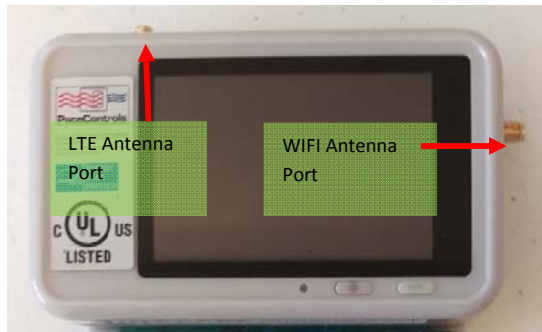

Figure 2. Antenna mounted on an HVAC unit
4. Installing Other Components: Typical PACE4 installations require the installation of supply and return air temperature sensors, a current transformer & a thermal switch (referred to as extend sensor). For communication, an antenna must be attached to the PACE4 module, and mounted on the outside of the HVAC cabinet (See Figure 2.). Step-by-step instructions in the section below provide detailed instructions.